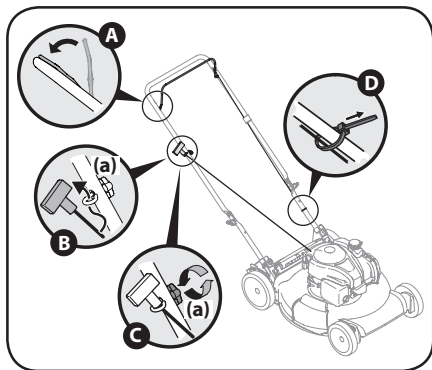

Figure 2-6
6. The rope guide is attached to the right side of the upper handle. Loosen the wing knob (a) which secures the rope guide. See Figure 2-6.